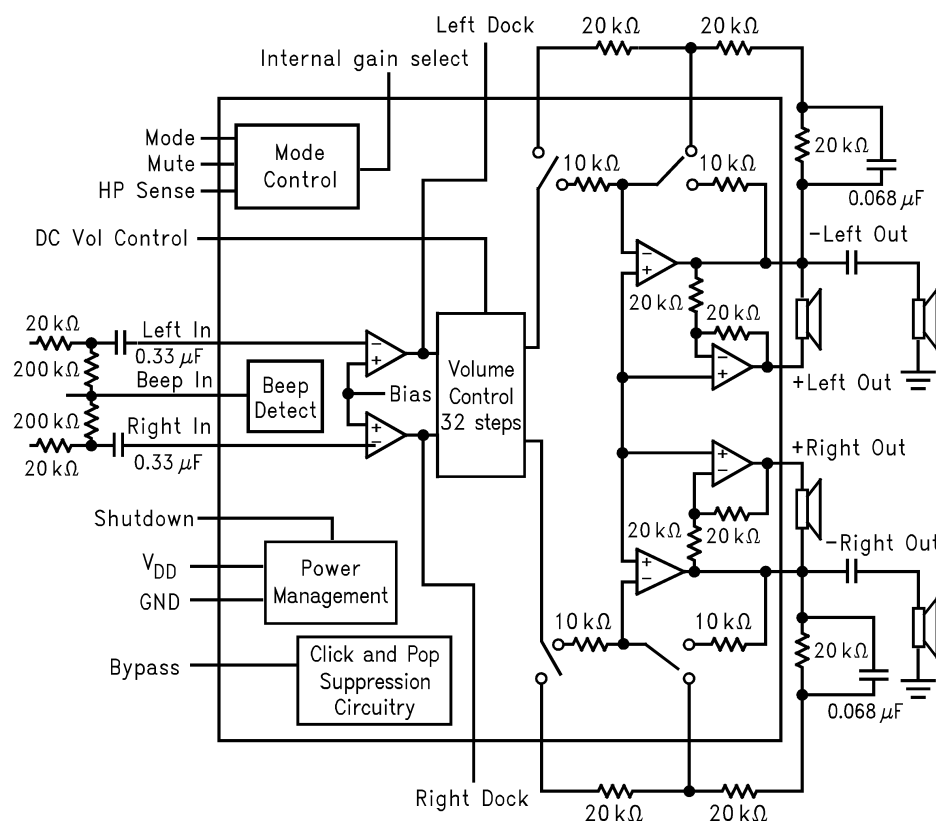

Figure 1. LM4938 Block Diagram
- (1) All voltages are measured with respect to the ground pins, unless otherwise specified. All specifications are tested using the typical application as shown in Figure 1.
- (2) *Absolute Maximum Ratings* indicate limits beyond which damage to the device may occur. *Operating Ratings* indicate conditions for which the device is functional, but do not ensure specific performance limits. *Electrical Characteristics* state DC and AC electrical specifications under particular test conditions which ensure specific performance limits. This assumes that the device is within the Operating Ratings. Specifications are not ensured for parameters where no limit is given, however, the typical value is a good indication of device performance.
- (3) Typicals are measured at $25^\circ C$ and represent the parametric norm.
- (4) Limits are specified to Texas Instruments' AOQL (Average Outgoing Quality Level). Datasheet min/max specification limits are specified by design, test, or statistical analysis.
- (5) When driving 3Ω loads from a 5V supply the LM4938MH must be mounted to the circuit board and forced-air cooled.
- (6) When driving 4Ω loads from a 5V supply the LM4938MH must be mounted to the circuit board.